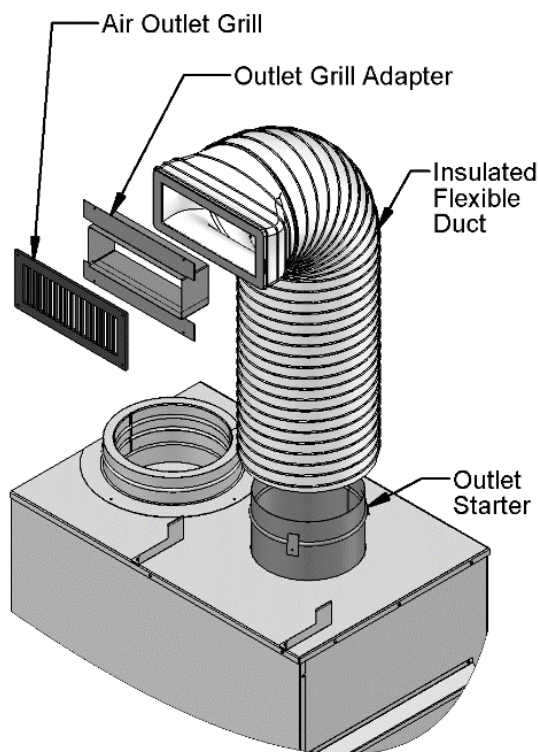

FIGURE 10 HRS AIR OUTLET GENERAL INSTALLATION
Refer to Figure 10 to identify the various parts.
1. Attach the round end of the insulated flexible duct (I) to the HRS outlet starter on the fireplace (see Figure 10). Ensure the insulated flexible duct completely covers the HRS outlet starter protruding above the top of the fireplace. Using three of the self-tapping screws with three flat washers provided (E), screw through the insulated flexible duct to attach it to the HRS starter.